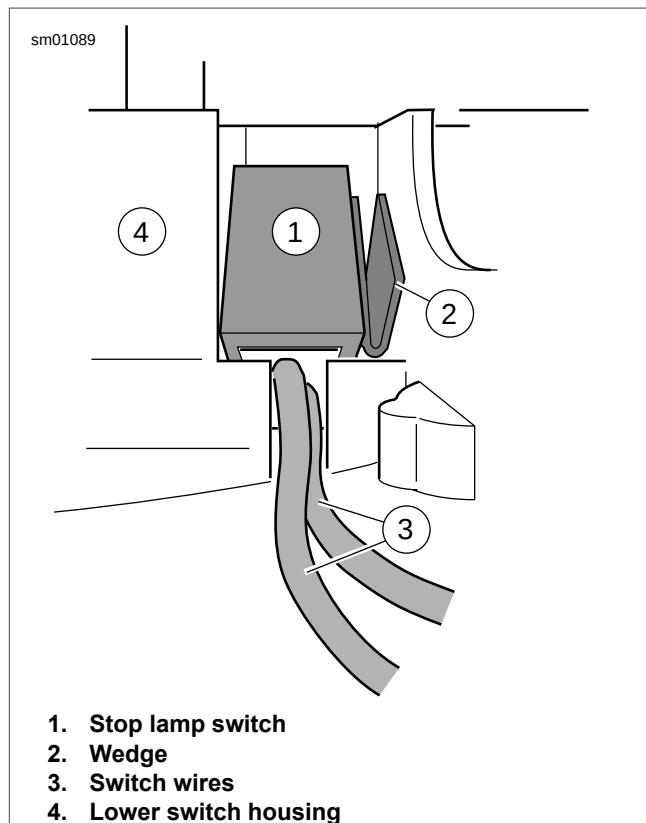

Figure 7-59. Install Stop Lamp Switch
6. See Figure 7-59. Push down on switch (1) so that it bottoms against housing and wires (3) run in groove at base of cavity. With the concave side facing outward, insert wedge (2) between switch and outboard side of switch housing.